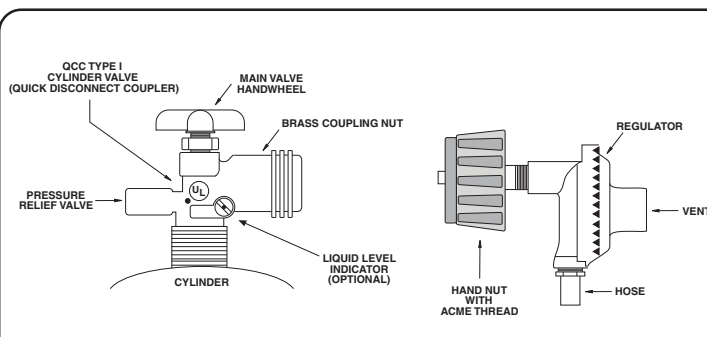

Figure 3A Type I Acme Thread Quick Coupler
- The pressure regulator and hose assembly (Figure 3A,) supplied with this outdoor cooking gas appliance must be used. Original and replacement pressure regulator and hose assemblies must be those specified by the Robert H. Peterson Co. for connection with a cylinder connecting device identified as Type I by the Harmonized Standard ANSI Z 21.58 and CGA 1.6-M95-1995 with Addenda ANSI Z 21.58a -1998 and CGA 1.6a - M98.
To disconnect:- Turn the Hand Nut counter-clockwise until detached. (Figure 3a).